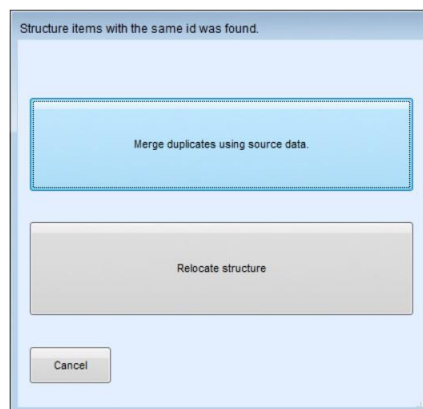

Figure 7.8: Paste as same option confirmation window
- User is prompted to select the next Paste command step, **Figure 7.8:**